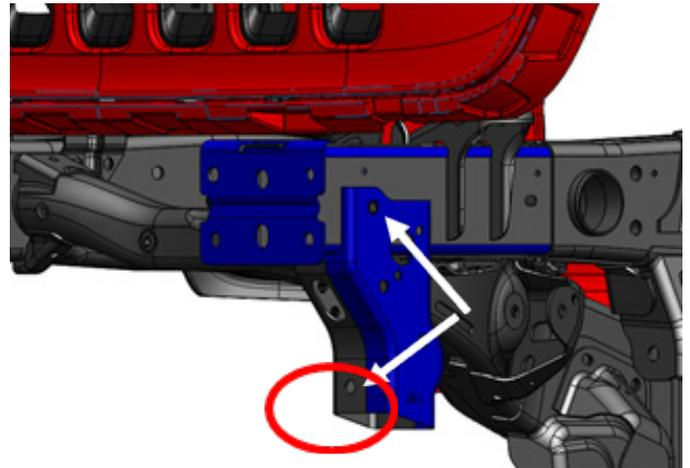
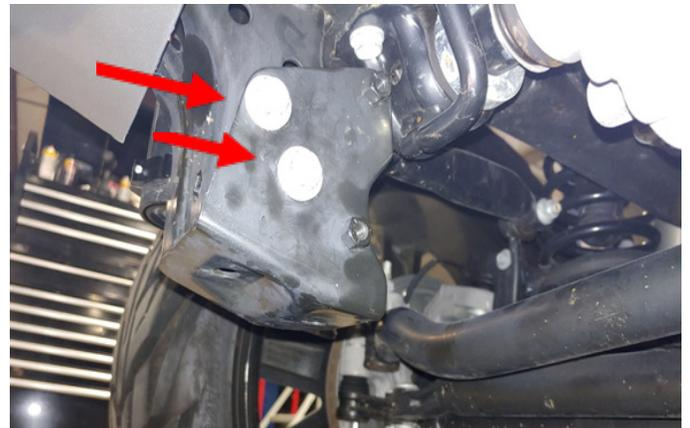
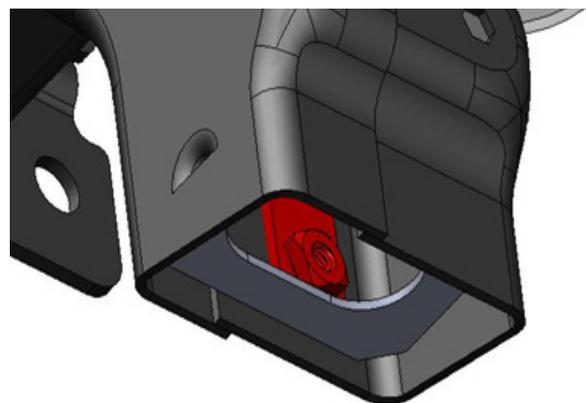

Figure 1
Figure 2
Figure 3
1. Use a 16mm socket to remove the four (4) bolts located on the frame horns and upper frame. Please note frame horn may not have lower bolting (circled-Figure 1). If OEM skid plate mount brackets are installed, remove from both sides at this time (Figure 2) using 16mm socket where indicated. If no lower bolts were provided you can insert weldnut plate into the frame horn and tape lower weldnut plates into place (Figure 3).